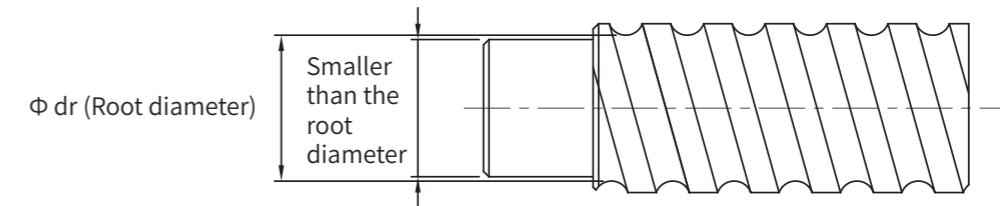

Figure 1.10.4 Specification for shaft end machining
1. If you choose ball screw with internal circulation or end cap circulation, the end thread of the screw must be threaded and the maximum shoulder size must be smaller than the base diameter. If the shoulder size is required to be larger than the root diameter, it is also acceptable, but there must be a threaded thread left on the shoulder for easy nut installation. As shown in Figure 1.10.4 below.